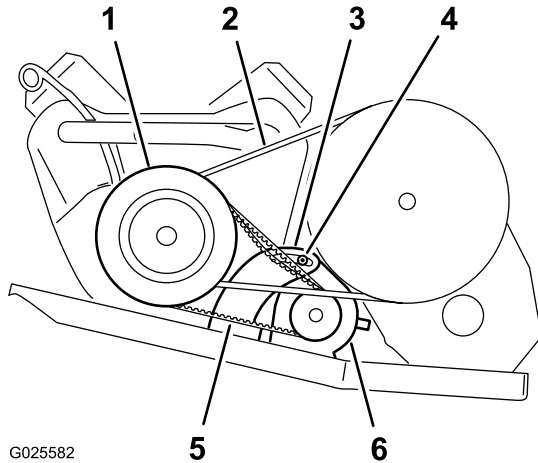

Figure 56
- Loosen the pivot nut for the starter generator (Figure 56).
- Apply downward pressure to the pry bar to rotate the starter down in the slot until the belt tension only allows 6 mm (1/4 inch) belt deflection with 44 N (10 lb) of force (Figure 56).
- Tighten the pivot nut hand tight, and remove the pry bar (Figure 56).